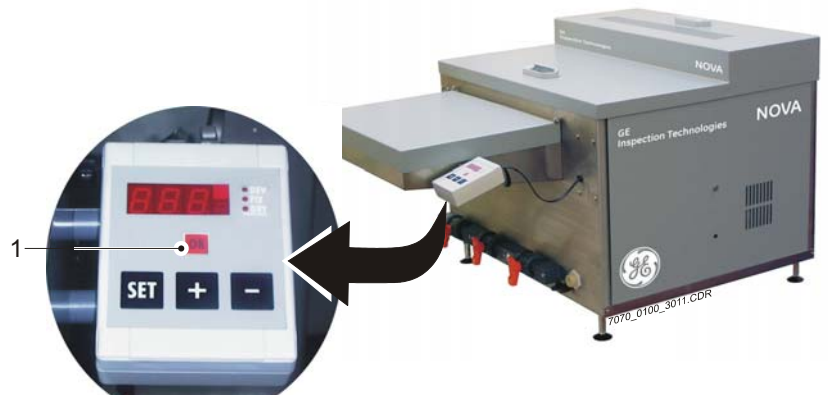

Fig. 7
- The current developer temperature is indicated on the display (Fig. 7).
- The OK light of the **NOVA** film processor (1, Fig. 7) will light once the selected developer and fixer temperature have been reached and the wash tank is filled.